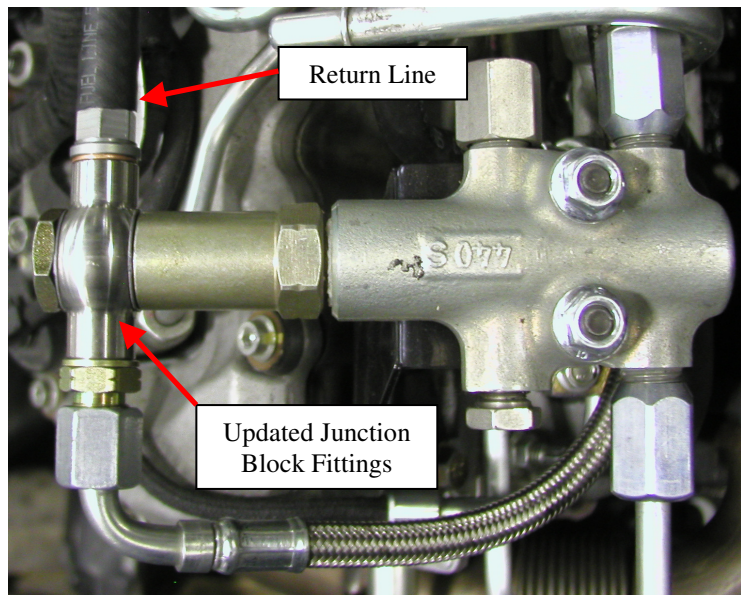

Figure 11: Rail Return Line Installed
16. Cut the 5/16" fuel line to run to the barbed fitting on the junction block. Connect the fitting to the tee on the end of the junction block, Figure 11. Use factory hose clamp (or supplied clamp) to ensure a good seal.